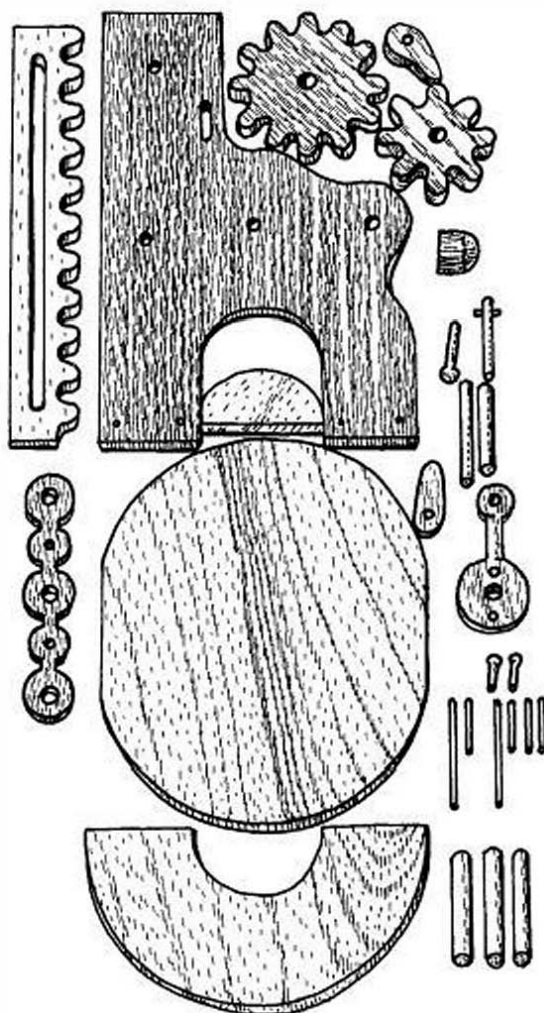

FIGURE 26-6
- 1** When you have achieved all the component parts that go to make up the project, set them out best face uppermost, and systematically check them over for potential problems (Figure 26-6). Okay, so I always say this, but the sad fact is that projects of this type and character are often less than beautiful, or are that much less successful, simply because such and such a part is flawed or needs to be re-cut.